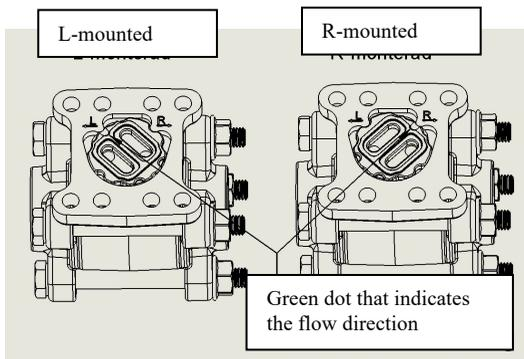

Figure 6, Flow direction selector
At the time of ordering, you must specify in which direction the Flow Monitor shall be mounted i.e. from which side is the flow entering the Pipe Section. (Please refer to fig. 6 below for alternatives.) If, for some reason, the Flow Monitor is ordered with the wrong flow direction, it is possible to change this in the field.
To change the direction, loosen the four (4) hexagon screw, which hold the diaphragm housing to the Pipe Section. Remove the diaphragm housing and you will see the flow direction selector (it might have attached itself to the bottom side of the diaphragm housing). Replace the flow direction selector in the configuration for your system (see fig. 6). Please also remember to turn the red arrow mounted on the Pipe Section (-GL and -FA models), to align with the new flow direction.